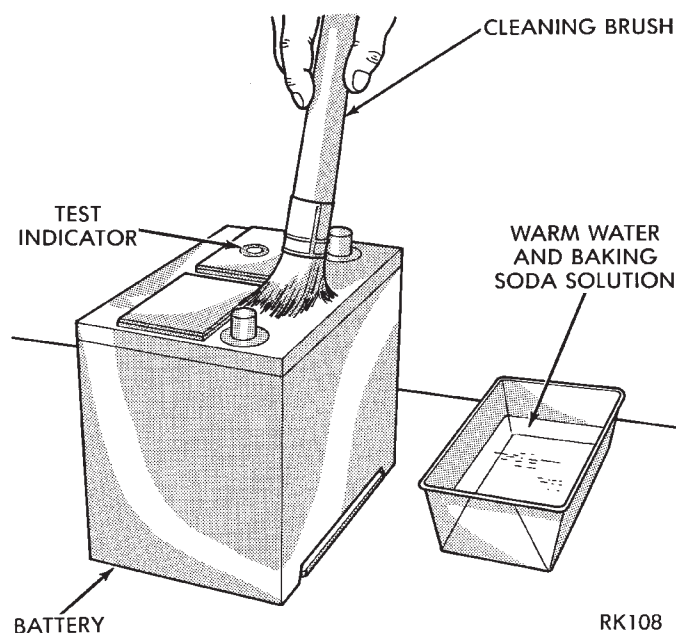

Fig. 14 Clean Battery
(9) If the battery is to be reinstalled, clean the outside of the battery case and the top cover with a sodium bicarbonate (baking soda) and warm water cleaning solution to remove any acid film (Fig. 14). Rinse the battery with clean water. Ensure that the cleaning solution does not enter the battery cells through the vent holes. If the battery is being replaced, see the Battery Ratings and Classifications chart in Specifications at the back of this group. Confirm that the replacement battery is the correct size and has the correct ratings for the vehicle.